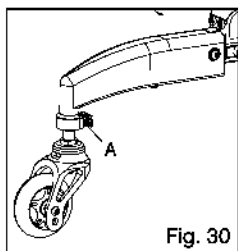

Fig. 30
- Loosen the 6mm bolt in the clamping ring (Fig. 30:A).
- Retighten the 6mm bolt in the clamping ring (Fig. 30:A).